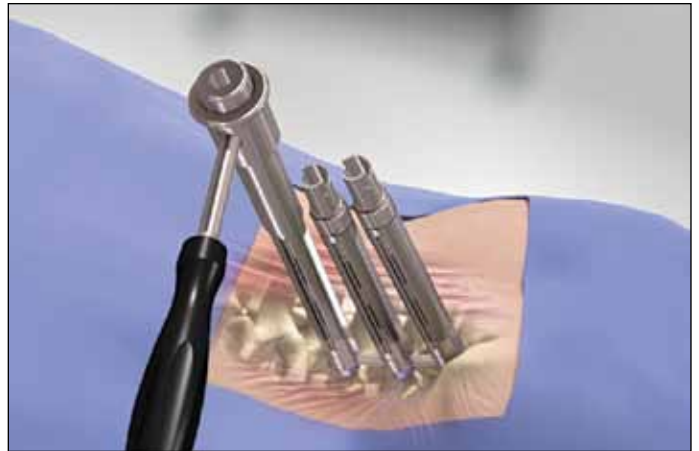

FIG. 37
- Place the Counter Torque on a Screw Extension. The Counter Torque is fully seated when it will no longer rotate. (FIG. 37)